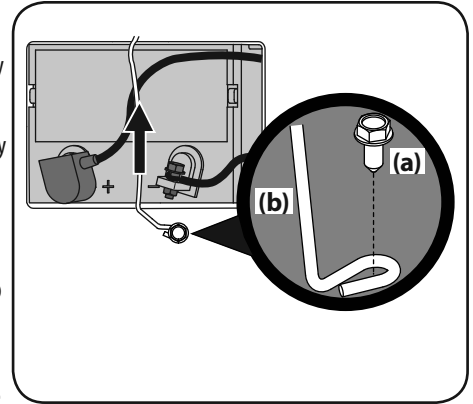

Figure 13
1. Remove the hex washer screw (a) securing the battery hold-down bracket (b) to the frame. Then flip the battery hold-down bracket (b) up to free the battery. See Figure 13.